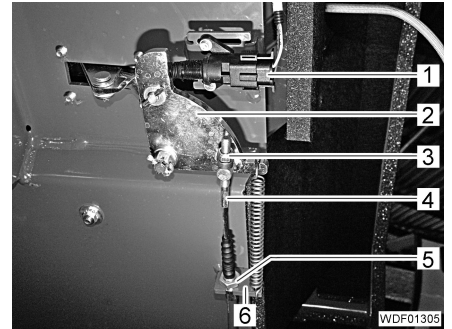

Fig. 399 Bowden cable attachment
- Insert the Bowden cable (Fig. 399,4) from the side into the mounting bracket (Fig. 399,6).
- Tighten the nut (Fig. 399,5).
- Insert the Bowden cable into the holder (Fig. 399,2).
- Screw the nut (Fig. 399,3) with washer onto the Bowden cable and tighten it so that the Bowden cable can still be rotated.
- Connect the plug to the switch (Fig. 399,1) of the parking brake.